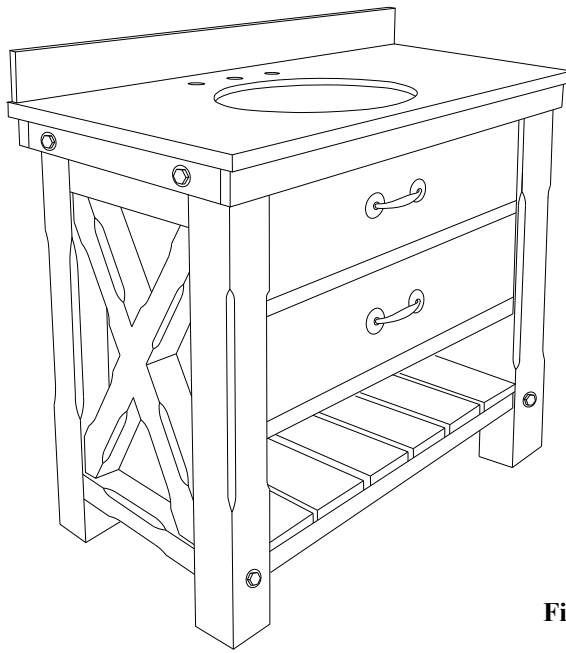

Fig. 4
4. Assembly is complete. (Fig.4)